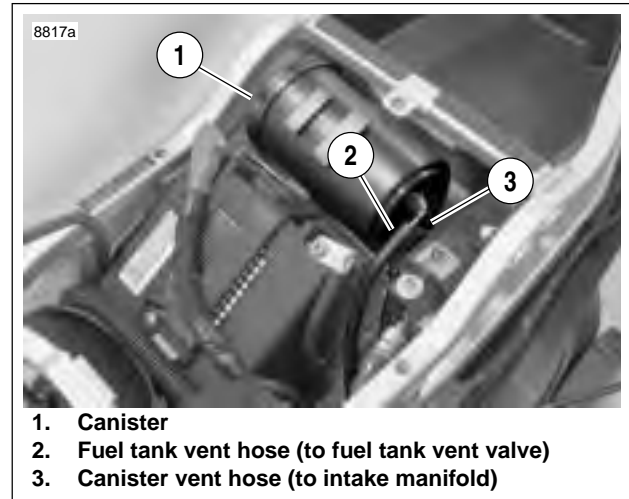
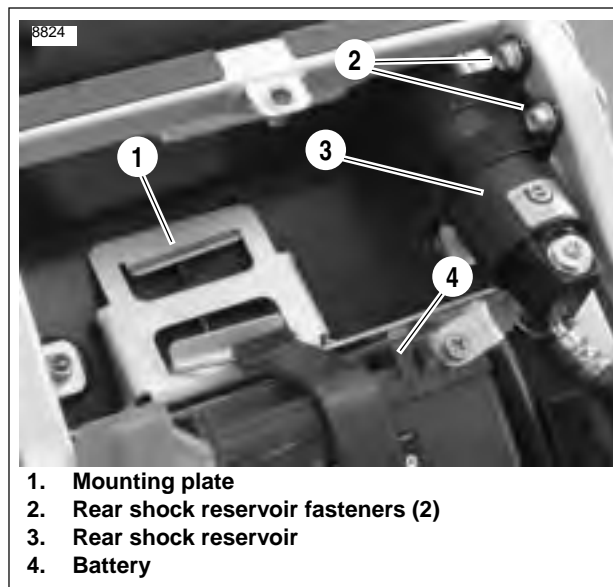

Figure 4-222. Carbon Canister Installation.
Figure 4-224. Carbon Canister Mounting
2. See Figure 4-222. The canister assembly mounts behind the battery in the tail section.
3. Label and disconnect the fuel tank vent hose (2) and canister vent hose (3) from the canister.
4. See Figure 4-224. Remove rear shock absorber reservoir fasteners (2). Move reservoir assembly away from canister.
5. Slide canister towards left side of vehicle to disengage from mounting plate (1).
2. See Figure 4-222. Attach fuel tank vent hose (2) to canister if disconnected.
1. See Figure 4-224. Slide canister into position on canister mounting plate (1).
2. Place rear shock reservoir assembly (3) into position.
3. See Figure 4-224. Install reservoir mounting fasteners (2). Tighten fasteners to 120-144 **in-lbs** (13.6-16.3 Nm).
4. See Figure 4-222. Connect two hoses to the canister. Make sure to push hoses all the way on to carbon canister fittings.